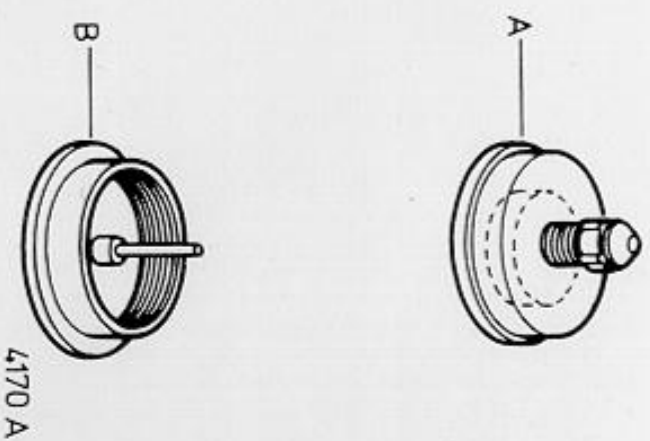

Fig. 14
V. HYSTERESIS OPSPOELFRIKTIE (fig. 14)